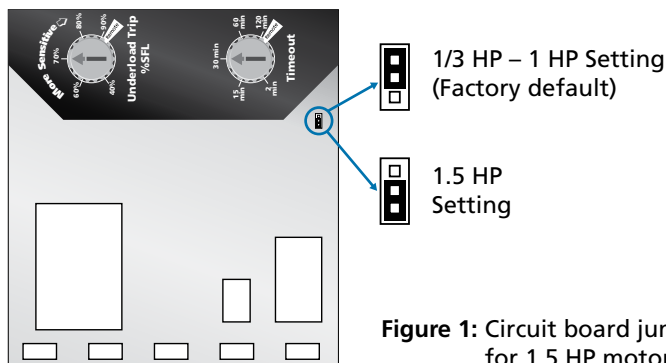

Figure 1: Circuit board jumper for 1.5 HP motors
2. If you will be running a 1.5 HP motor, move the circuit board jumper to the 1.5 HP position as shown in Figure 1.